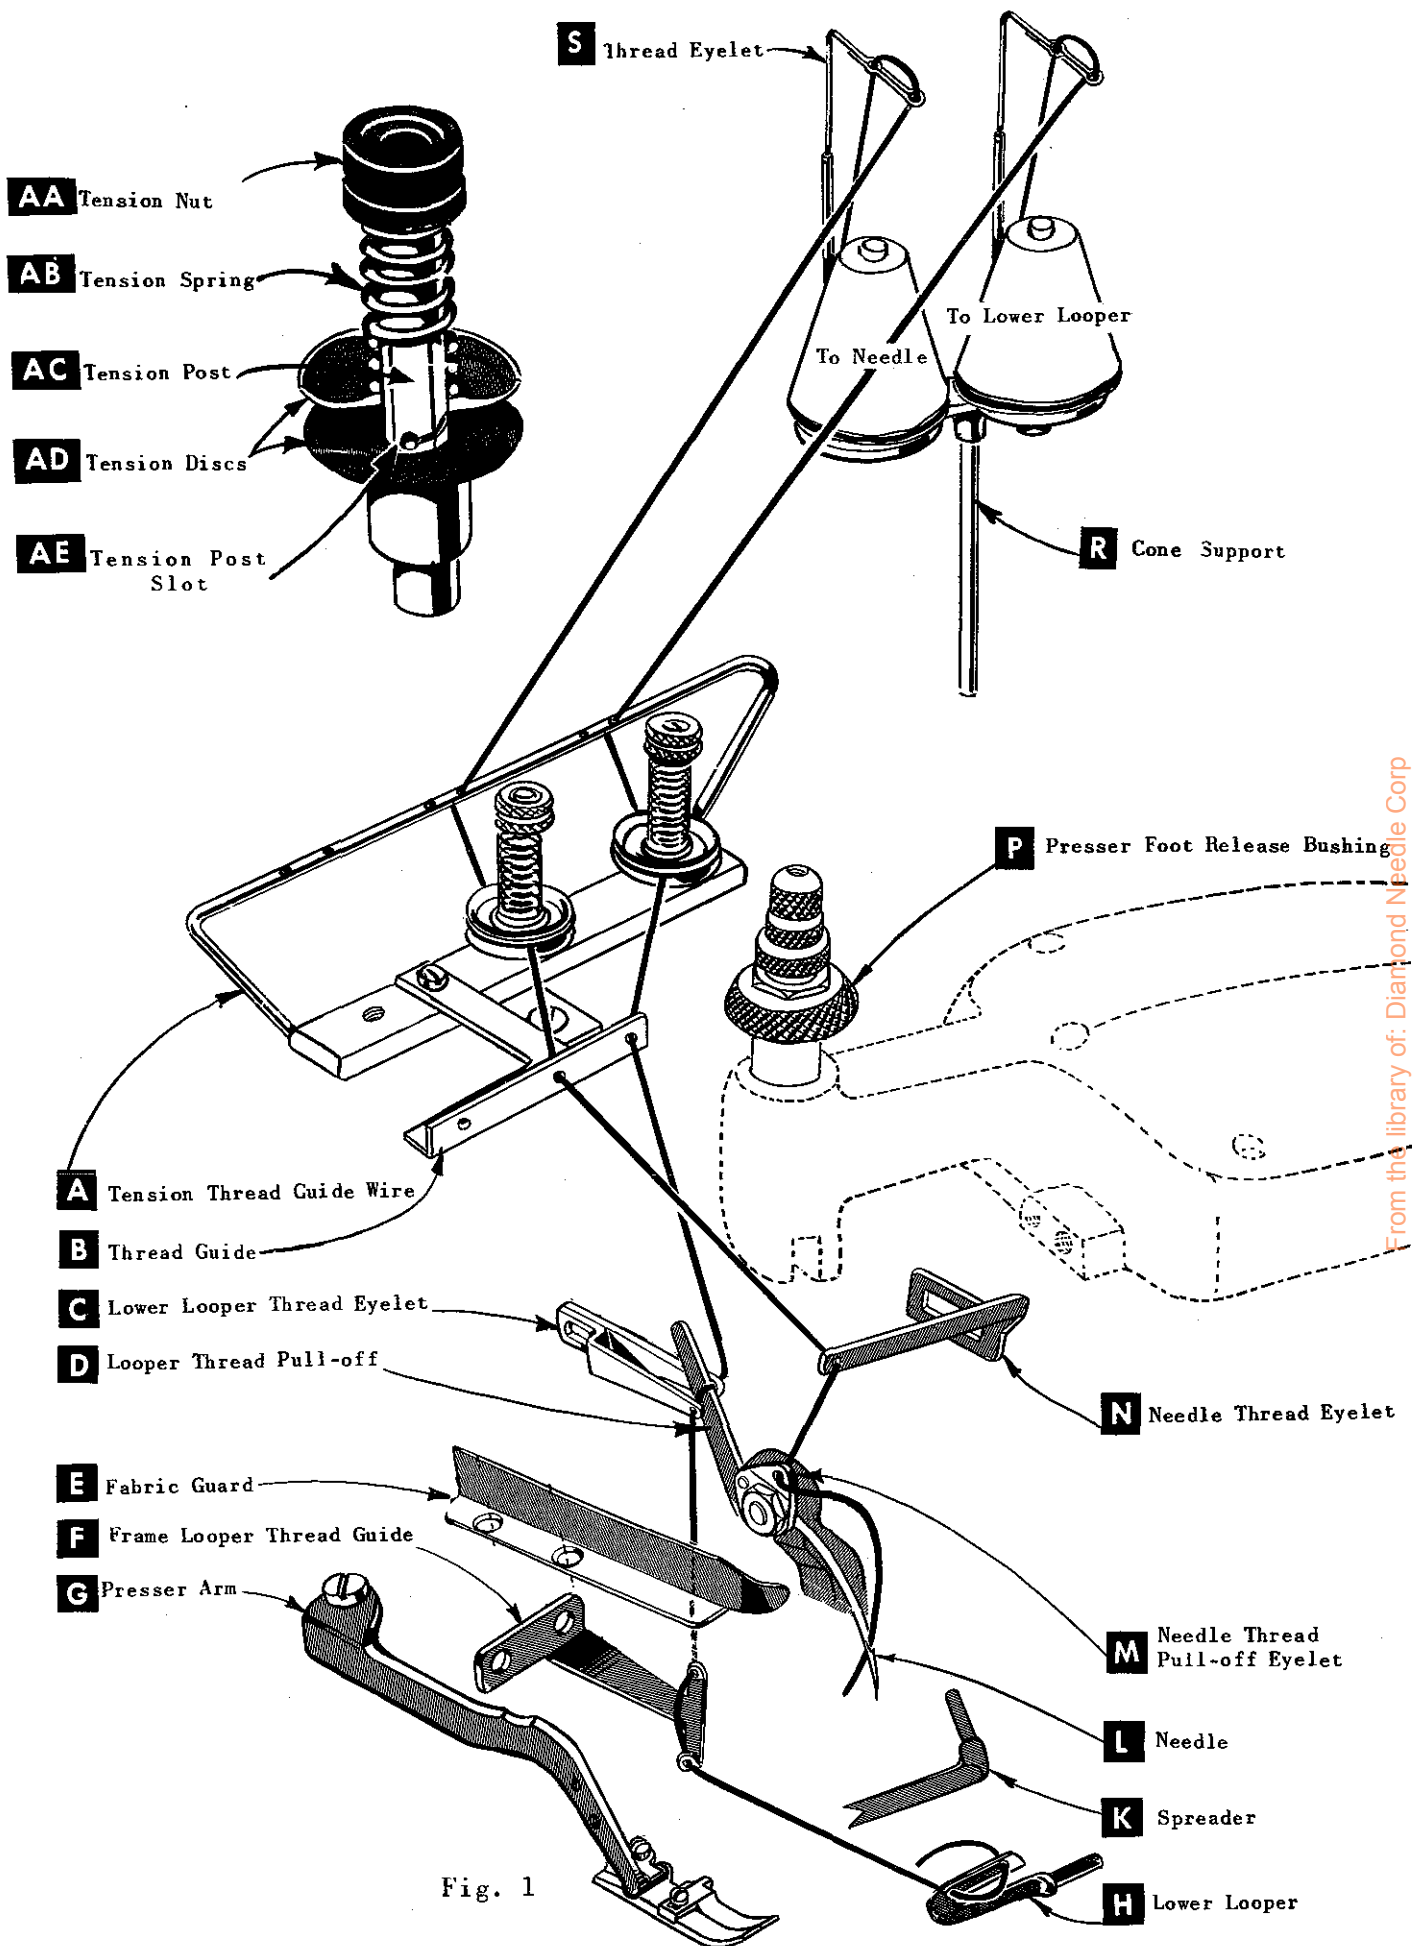

Fig. 1
Release pressure on presser foot by turning presser foot release bushing (P, Fig. 1) and swing presser arm (G) out of position. Turn handwheel in operating direction until needle is at its lowest point of travel. Using hexagonal socket wrench No. 21388 AU, furnished with machine, loosen needle clamp nut about 1/4 turn. Again turn handwheel until needle is at high position; withdraw needle.
After thread comes from cone on thread stand (R, Fig. 1), it is brought up through back thread eyelet, then down through front thread eyelet (S). Next it is threaded down through right hand hole of each pair of holes in tension thread guide wire (A). Then thread continues between tension discs (AD), through slot (AE), and on through thread guide (B).
Only parts involved in threading are shown in threading diagram (Fig. 1). Parts are placed in their relative positions for clarity.
Double end of thread and lead it through both eyes of lower looper thread eyelet (C, Fig. 1) from right to left. NOTE: Thread must pass in front of looper thread pull-off (D). Lead thread behind fabric guard (E) and through both holes of frame looper thread guide (F). Turn handwheel in operating direction until heel of lower looper (H) is all the way to the left; then thread through both eyes from left to right. Right eye of lower looper can be threaded easily if tweezers are in left hand.
Turn handwheel in operating direction until needle (L, Fig. 1) is at its highest position. Insert needle thread from back to front, through eye of needle thread eyelet (N), under neck of top cover casting, then right to left through hole in needle thread pull-off eyelet (M). Thread needle from front.
The amount of tension on needle and looper threads is regulated by two knurled tension nuts (AA, Fig. 1). Tension on threads should be only enough to secure proper stitch formation.